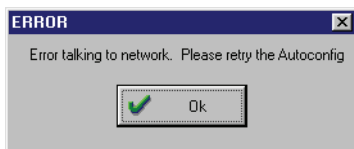

Figure 2-42: Autoconfiguration Error
2. Click on the  button and the Autoconfiguration Error window appears (see Figure 2-42). If the  button is not selected within the time allotted, the window will automatically change to the Autoconfiguration Error window.